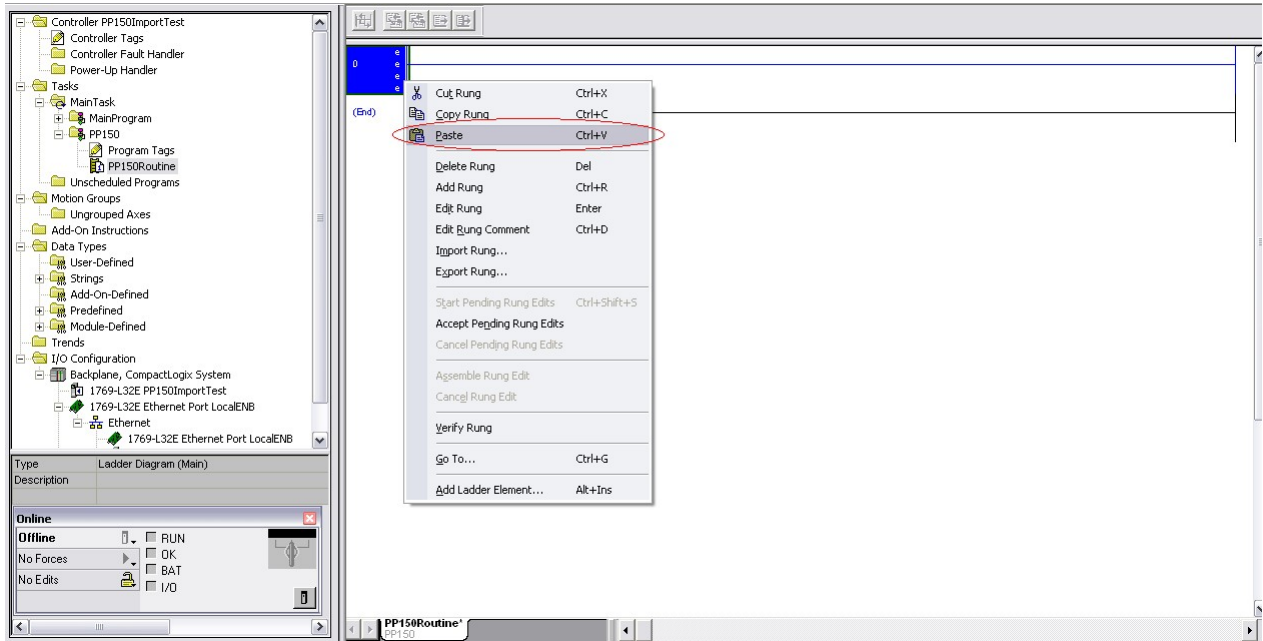

FIGURE 10.15
- Q. PASTE THE COPIED RUNGS FROM THE SAMPLE PROGRAM INTO YOUR NEW PROGRAM LADDER LOGIC. NOTE: THESE RUNGS SHOULD BE COPIED TO THE PP150ROUTINE THAT YOU JUST CREATED. THIS WILL ENSURE THAT THE IMPORTED TAGS (SECTION 10.R) WORKS CORRECTLY (SEE EXAMPLE BELOW...FIGURE 10.15)